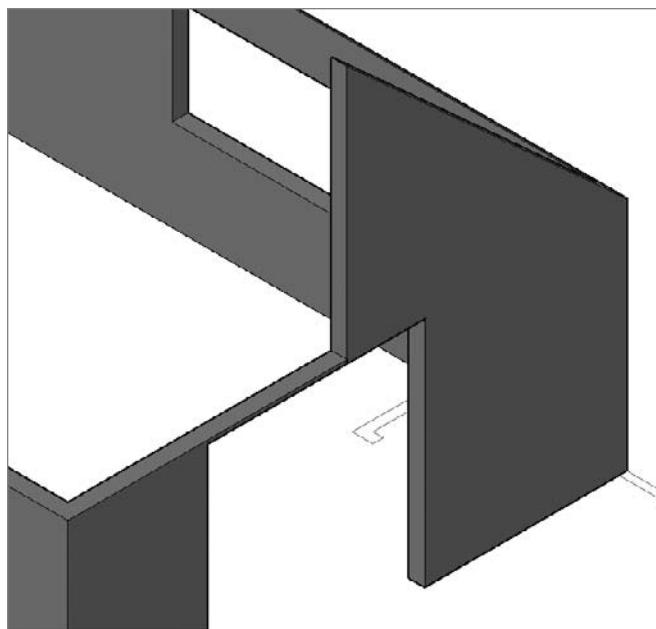

FIGURE 16.82 Creating half the peak
8. Click the grip, and enter $@0,0,8\frac{1}{4}" (@0,0,2496)$ to move the edge $8\frac{1}{4}"$ (2496 mm) along the z-axis. The faces bound by the edge are adjusted accordingly and form one half of the peak, as shown in Figure 16.82.